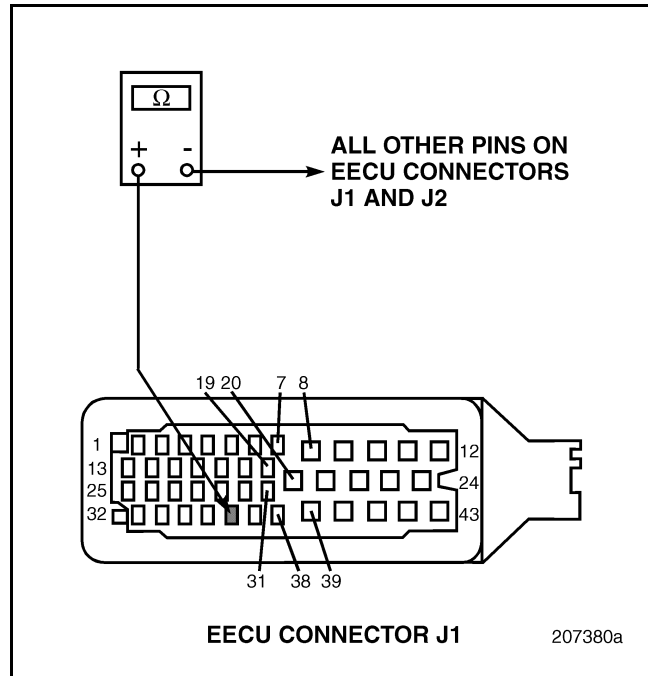

Figure 173
4. Check for continuity between EECU harness connector J1 pin 36 (reference voltage line) and all other pins in EECU harness connectors J1 and J2 (see Figure 173).